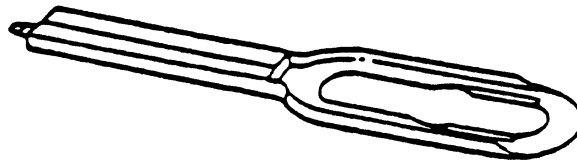

Fig 1-11. M18 fuze wrench.
f. M18 fuze wrench (fig 1-11); the M18 fuze wrench is a hand wrench, slotted on one end to accept a variety of fuzes. It is equipped with a screwdriver like projection on one end. The fuze wrench is used to remove and replace certain fuzes and to set fuzes with superquick and delay settings.